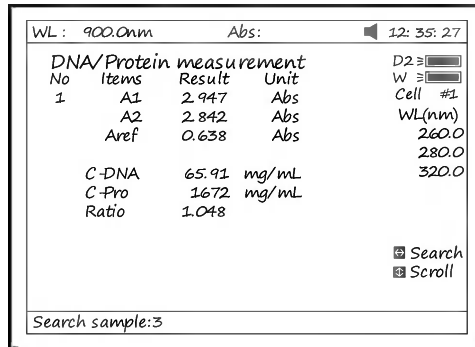

Fig 66
7. Press the key **[<]** or **[>]** for searching. Input the sample number (Fig 66), the result will be displayed on the screen. Press the key **[^]** or **[v]** to browse the test results one by one.